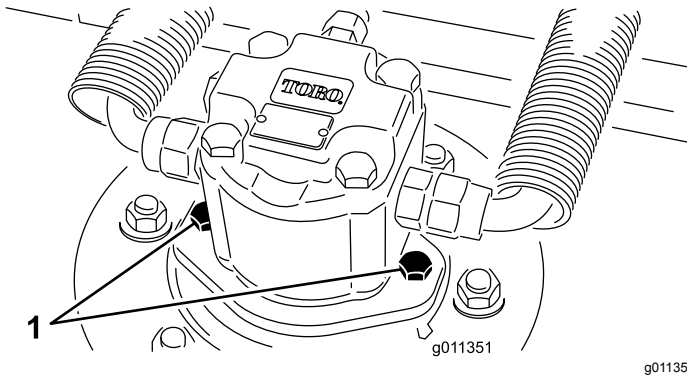

Figure 90
2. Disconnect and remove the hydraulic motor from the cutting unit (Figure 90). Cover the top of the spindle to prevent contamination.
4. Install the hydraulic motor to the deck (Figure 90). Make sure that the O-ring is in position and not damaged.